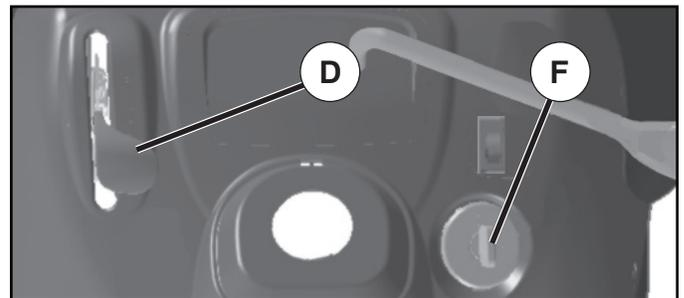

Fig. 8
- Move throttle control (D) between half and full speed (fast) position.
- Turn ignition key (F) to “STOP” position and remove key. Always remove key when leaving tractor to prevent unauthorized use.
### TO USE THROTTLE CONTROL (D) (See Fig. 8)